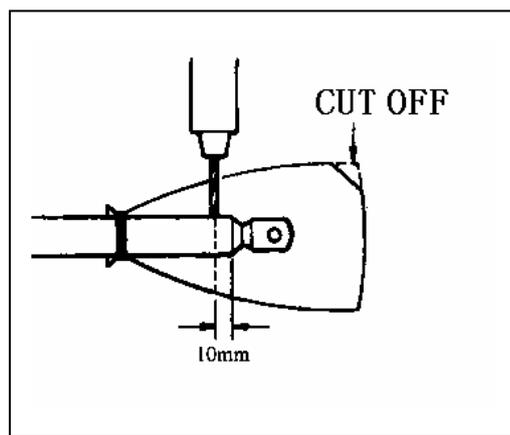

Fig. 19-24
- (1) After the gas springs are detached, to keep them away from high temperature surrounding or fire.
- (2) Before discarding the removed gas spring, Envelop it as illustrated with nylon tape, and then, Drill a hole of 2 to 3 mm in diameter through the tape into the gas spring as shown in Fig. 19-24.